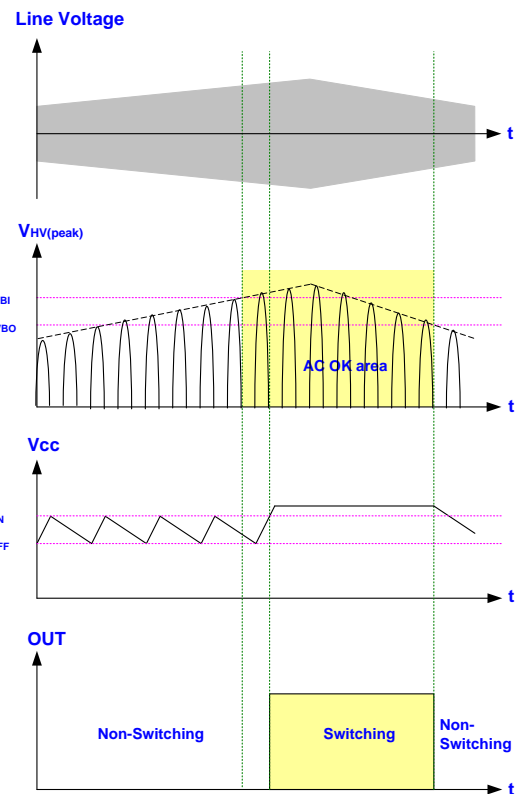

Fig. 13
The LD5760 features Burn-in/out function on HV pin. As the built-in comparator detects the half wave rectify line voltage condition, it will shut off the controller to prevent from any damage. Fig. 13 shows the operation. When $V_{HV} < HVBO$, the gate output will remain off even when the VCC already reaches UVLO(ON). It therefore forces the VCC hiccup between UVLO(ON) and UVLO(OFF). Unless the line voltage rises over $HVBI$ V_{AC} , the gate output will not start switching even as the next UVLO(ON) is tripped. A hysteresis is implemented to prevent the false-triggering during turn-on and turn-off.